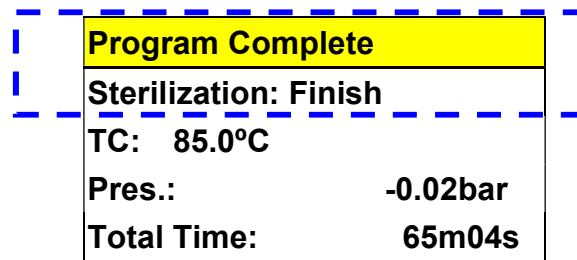

Figure 100– Program Complete
- L. On completion, the buzzer will sound and the Program Complete message is displayed as shown in Figure 100– Program Complete.
- E. On completion, the buzzer will sound and the Program Complete message is displayed as shown in Figure 100– Program Complete.